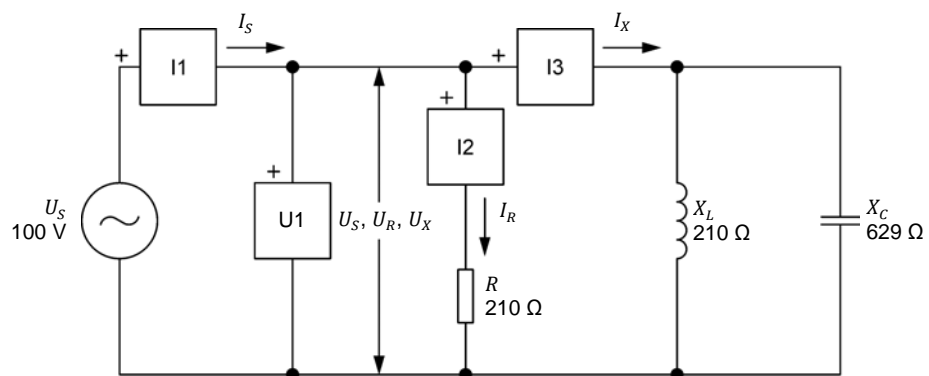

Figure 3-15. Parallel ac circuit containing a resistor, an inductor, and a capacitor, and set up for power measurements.
16. Set up the circuit shown in Figure 3-15.
Power triangle of the circuit in Figure 3-15.